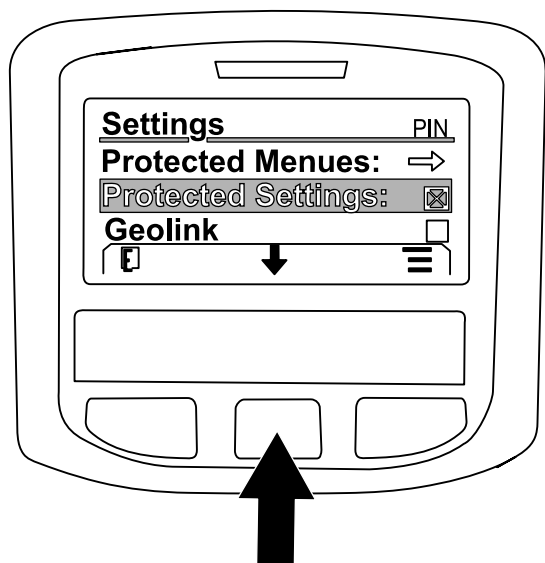

Figure 230
7. Press the center button to navigate to the GEOLINK option, and press the right button to set the option (Figure 230).